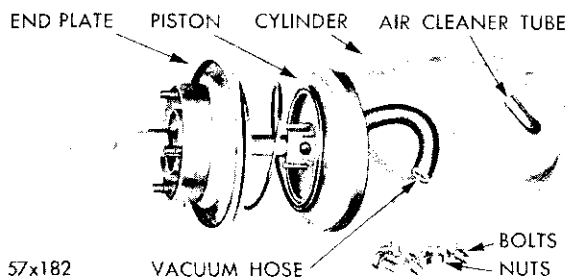

Fig. 47—Removing or Installing the Vacuum Hose
(1) Place a scribe mark across the flange of cylinder and end plate, and remove the attaching nuts and bolts. Slide the vacuum piston out of the cylinder. Reach inside and slide the vacuum hose off the air cleaner tube, as shown in Figure 47. Remove the cylinder to end plate "O" ring.